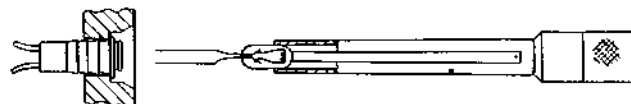
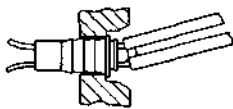

Fig. 5—New Lamp Inserted in Spring End of Tool
Fig. 6—Removing Tool From Installed Lamp
3.03 To insert a new lamp, place glass envelope in the tool (Fig. 5). Insert lamp in base and withdraw tool by moving tool to one side, as shown in Fig. 6. Use tool to replace cap, reversing procedure in 3.01.